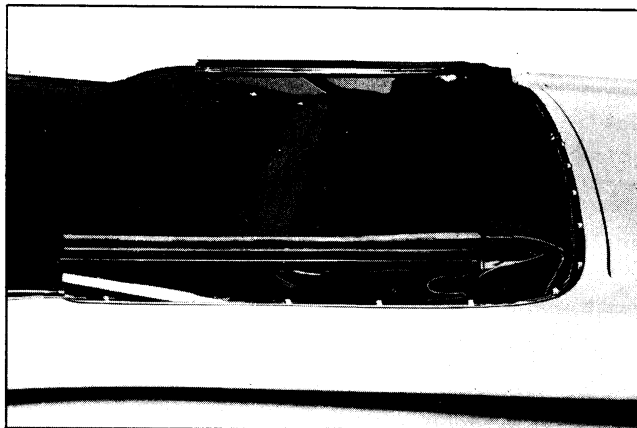

Fig. 22-12 Turn Top Material Forward
5. Fold top material forward over front roof rail (Fig. 22-12).